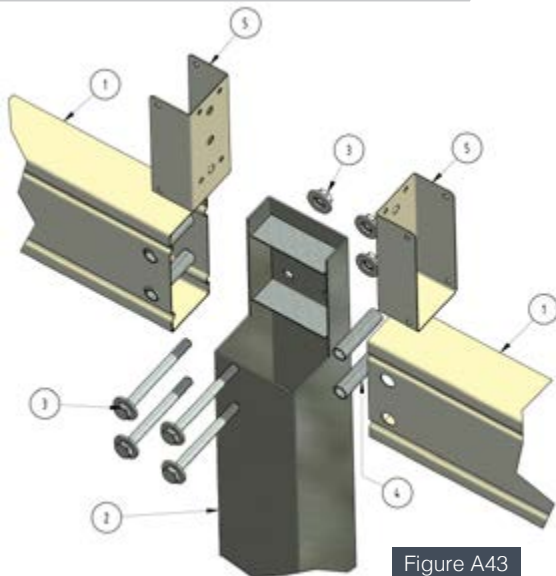

Figure A43
**Steel Post End Cap Connection (See Figure A43 & A44)**